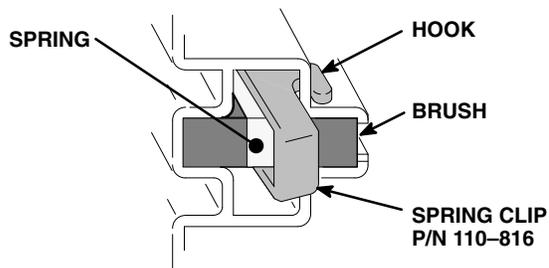

Fig. 13
3. Push in the spring clip to release its hooks from the brush holder. Pull out the spring clip. See Fig. 13.